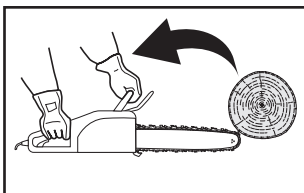

Fig. 20
In some cases, contact with the tip of the guide bar (13) may cause a lightning-fast reverse reaction, kicking the guide bar up and back toward the operator (Figs. 20, 21, 22).